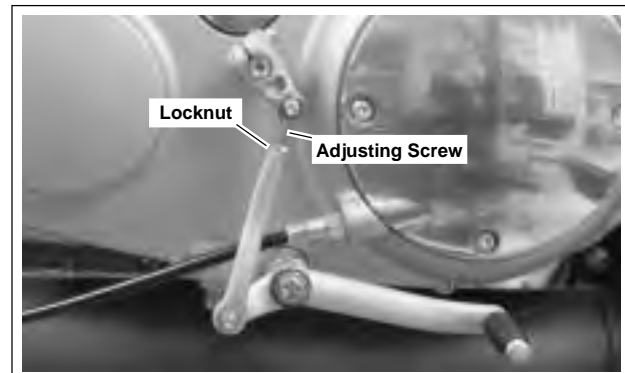

Figure 1-30. Primary Chain Adjustment
1. See Figure 1-30. Loosen locknut (1).
2. Turn adjusting screw (2):
3. Tighten locknut (1) to 20-25 ft-lbs (27-34 Nm).